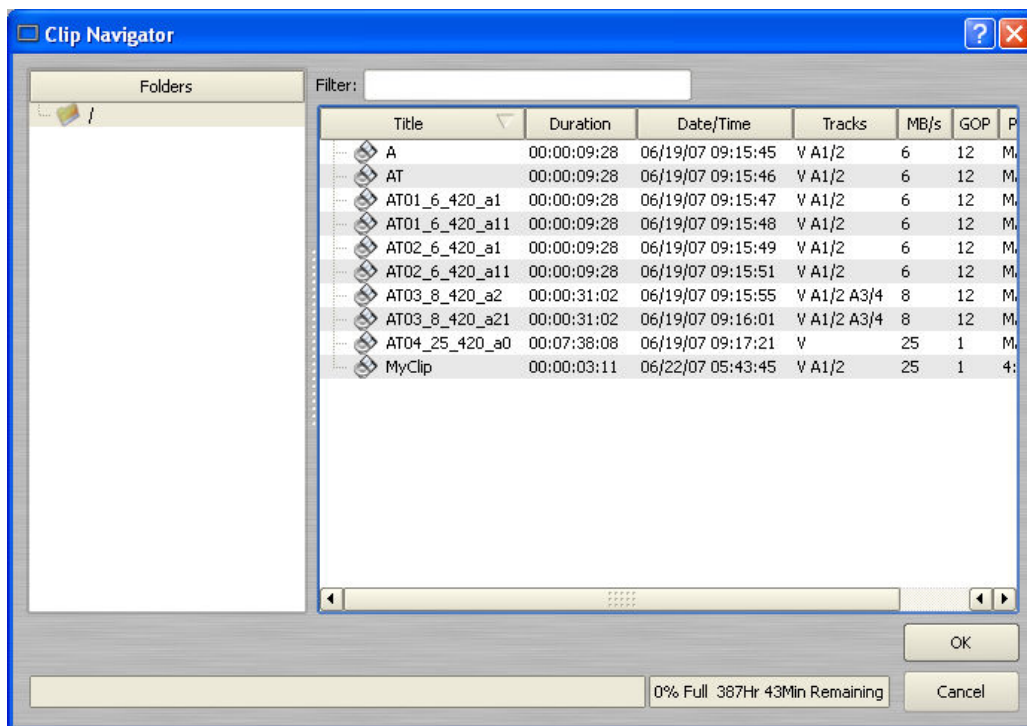

Figure 21 - Clip Navigator
- The Clip Navigator of Figure 21 is displayed. **Right-Click** on the folder icon displayed under the **FOLDERS** window.